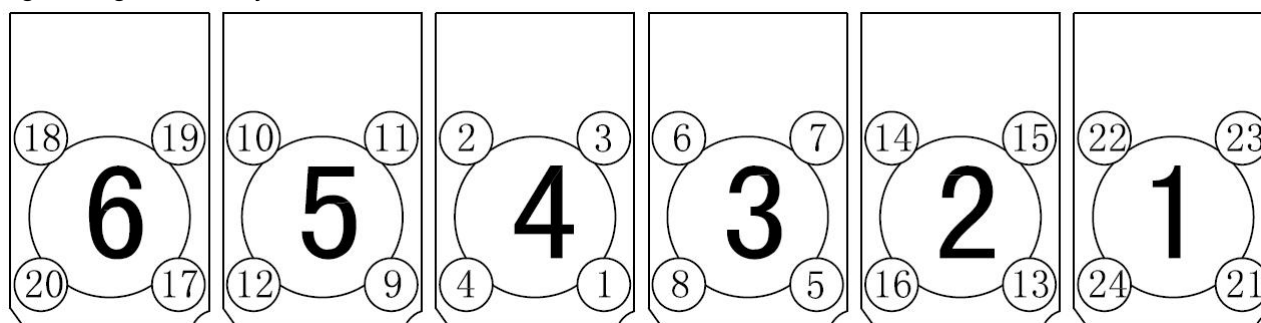

Fig1-3 Tightening order of cylinder head main bolt and auxiliary nuts
- b. As fig 1-3 shows, tightening main bearing bolts to 200^{+10}_0 N•m in order, and make a mark on bolts.
- c. As fig 1-3 shows, tightening main bearing bolts to 90° angle in order, and make a mark an the new position
d. As fig 1-3 shows, tightening main bearing bolts to another 90° angle in order, reach to 240~340 N•m simultaneously.